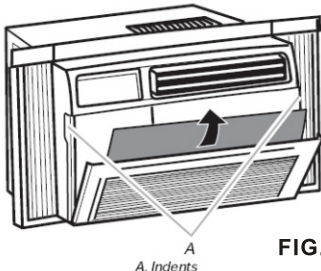

FIG.16
1. Remove the filter by pulling down on the indents of the filter door on the front of the unit. (See FIG.16)